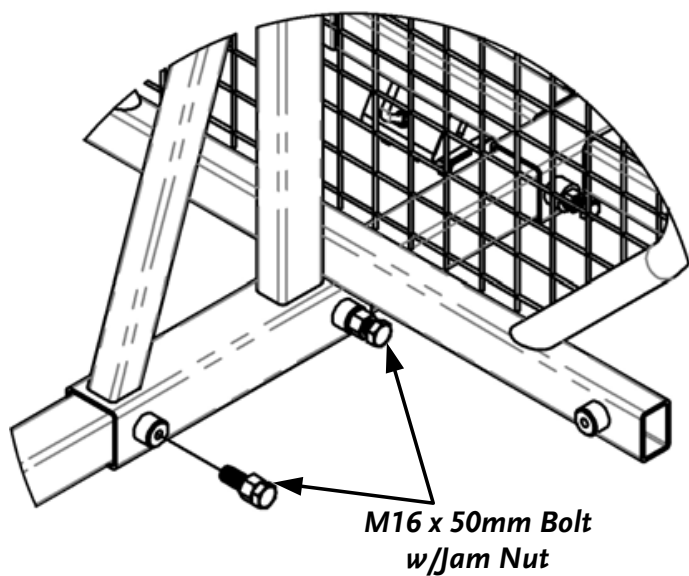

Figure 18
4. Install two M16 x 50mm Bolts with M16 Jam Nuts (**Figure 18**) into the Operator Guard Bosses on the Right Side and tighten the Bolts with a 24mm Socket and the Jam Nuts with a 24mm Wrench or Adjustable Wrench.